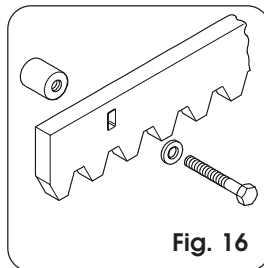

Fig. 16
4.4.2. STEEL RACK TO BE SCREWED (Fig. 16)
- 5) Fit another rack element next to the previous one, using a piece of rack, as shown in Fig. 16, to synchronise the teeth of the two elements.